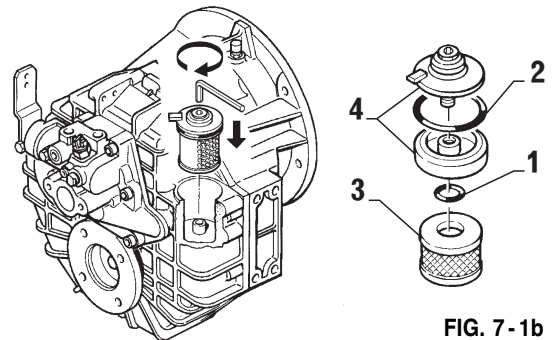

FIG. 7-1b
- Wet O-rings (item 1 and 2, Fig. 7-1b) with some ATF fluid and mount them.
- Install filter element (item 3, Fig. 7-1b) into the transmission.
- Lock cover (item 4 Fig. 7-1b) to the transmission using an allen wrench. Tightening torque: min 5 Nm - max 8 Nm. (min 4 ft.lb. - max 6 ft.lb.)